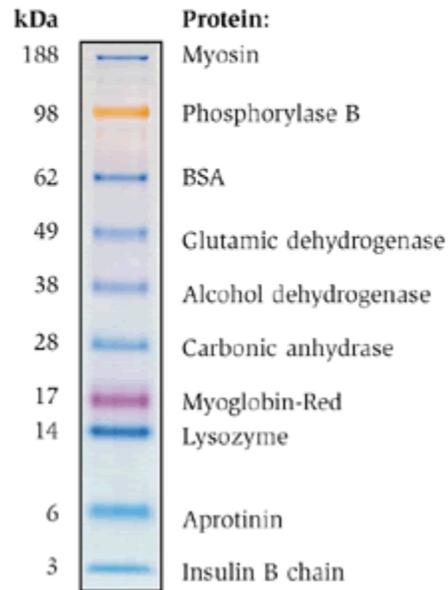

Figure 1: Molecular Weight Marker Diagram
9.1. Figure 1: Molecular Weight Marker Diagram